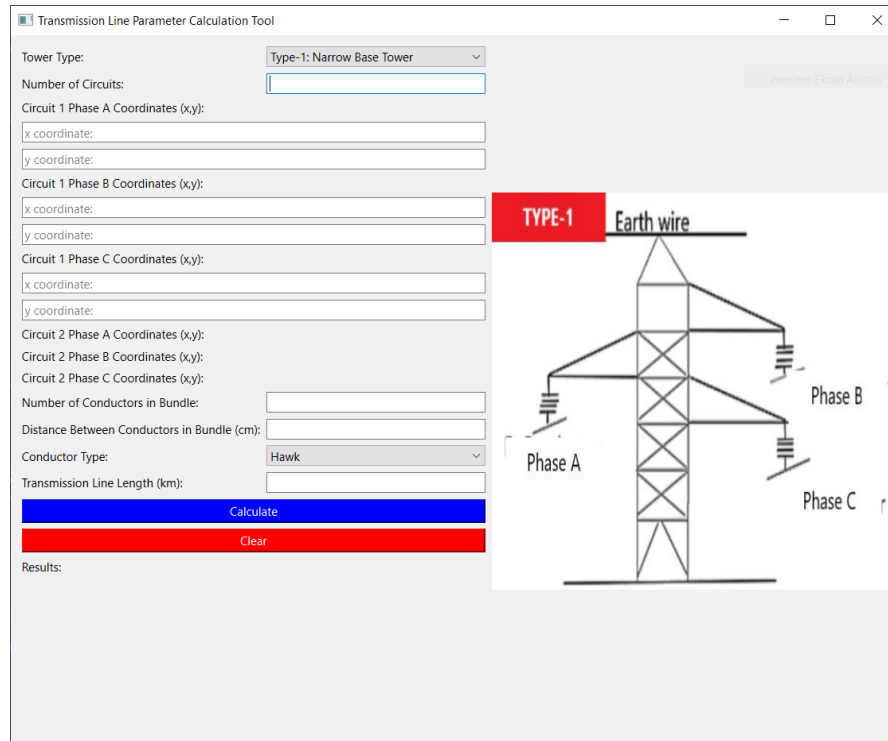

Figure 1: GUI of the program
- The GUI, seen in Figure 1 below, was developed using PySide6 to allow users to input various parameters related to transmission towers and conductors. The interface includes dropdowns for selecting tower types and conductor types, text inputs for coordinates and line lengths, and buttons for executing calculations and clearing inputs. Also, depending on the tower type selected in the GUI, a photo of that tower type it is.